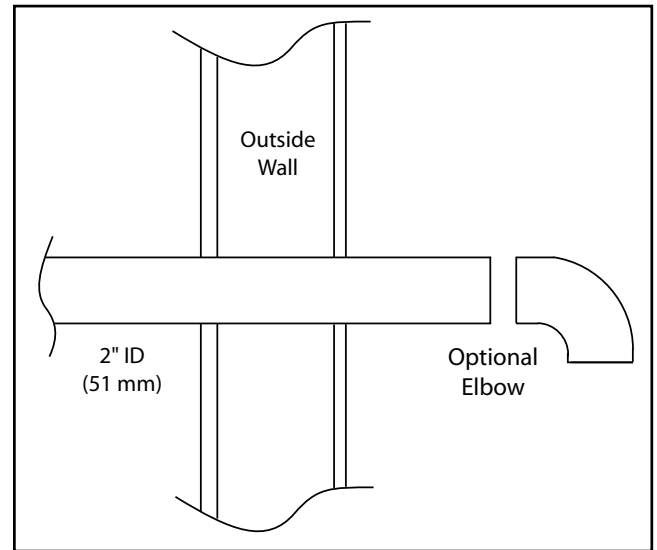

Figure 6: Outside Air Connection
**Table 1: Use in conjunction with Figure 6 for allowable exterior vent termination locations.**